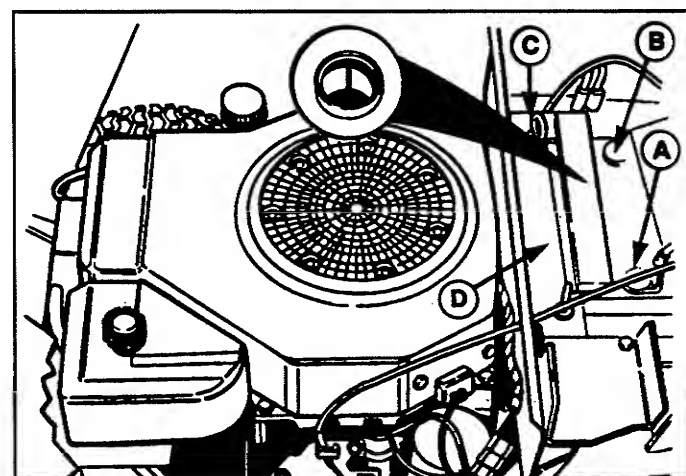

Figure 22. Battery
1. Disconnect the cables from the battery, negative cable first (B, figure 22).